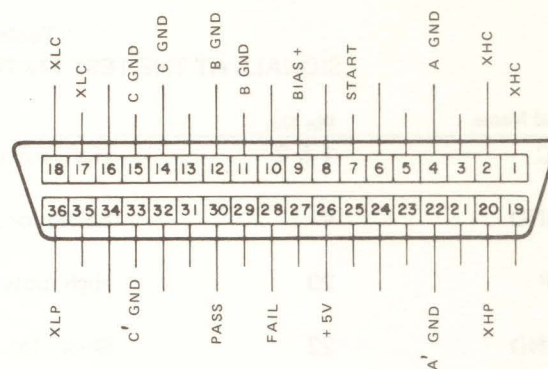

Figure 2-6. Test-fixture connector, S010, rear view.
2.5 TEST-FIXTURE CONNECTIONS. Figure 2-6.